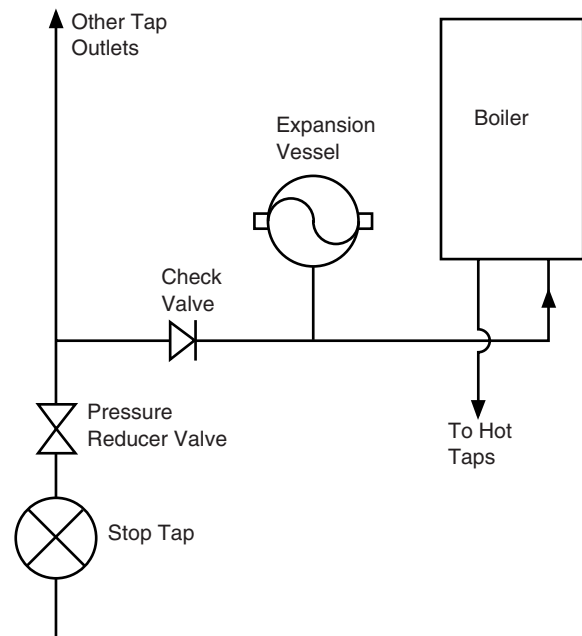

Fig. 6
6.8 Domestic Hot Water Circuit (Fig. 6)
3. A single check valve must be fitted as shown in Fig. 6 to prevent backflow to the supply pipe and to ensure the efficient operation of the expansion vessel which is required to accommodate the thermal expansion of the water.